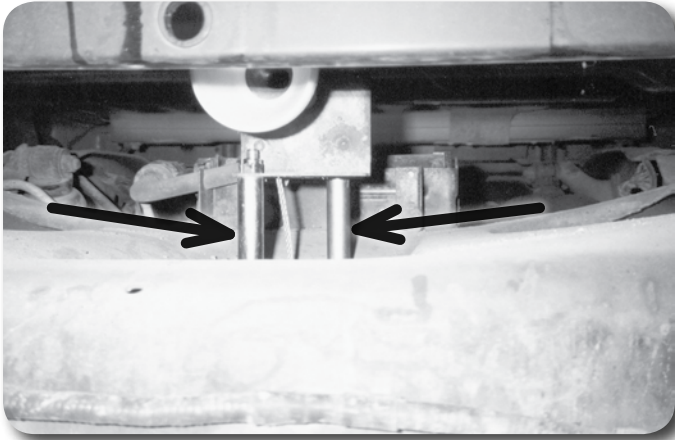

Figure 22
79. Replace the modified winch in the vehicle **Figure 22**. Position two 3/4" OD x 3" winch spacers between the winch and the cross member and align the holes. Insert a 3/8" x 4" bolt and 3/8" SAE washer in each mounting hole. Fasten with two 3/8" lock nuts and 3/8" SAE washers. Torque hardware to 30 ft-lbs. *Use Loctite® on all mounting hardware.*